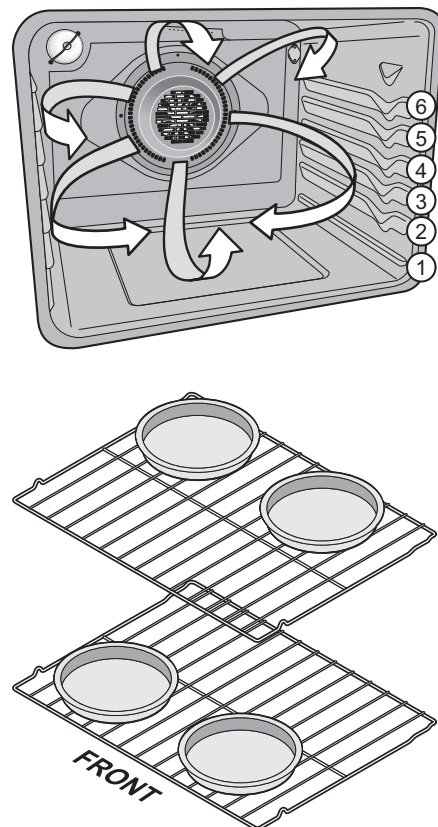

Figure 27: Rack positions and pan placement
- For best results when baking layer cakes using two oven racks, place racks in positions 3 and 5 and place pans as shown in Figure 27.